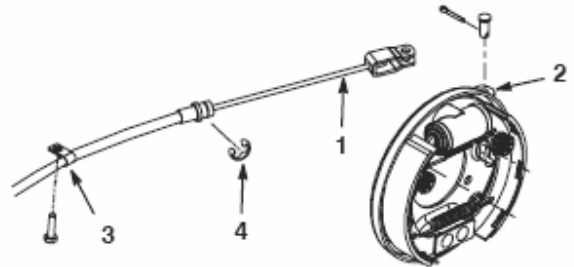

Figure 1b
**Step 5.** Remove the cotter pins and clevis pins securing the parking cables to the rear wheel brake levers. (Figure 1b) Remove R-clamps and C-clips securing the brake cable to the frame. MD & MDX only. On MDE, the parking brake cables need to be disconnected from the parking brake lever located on the plastic seat base.